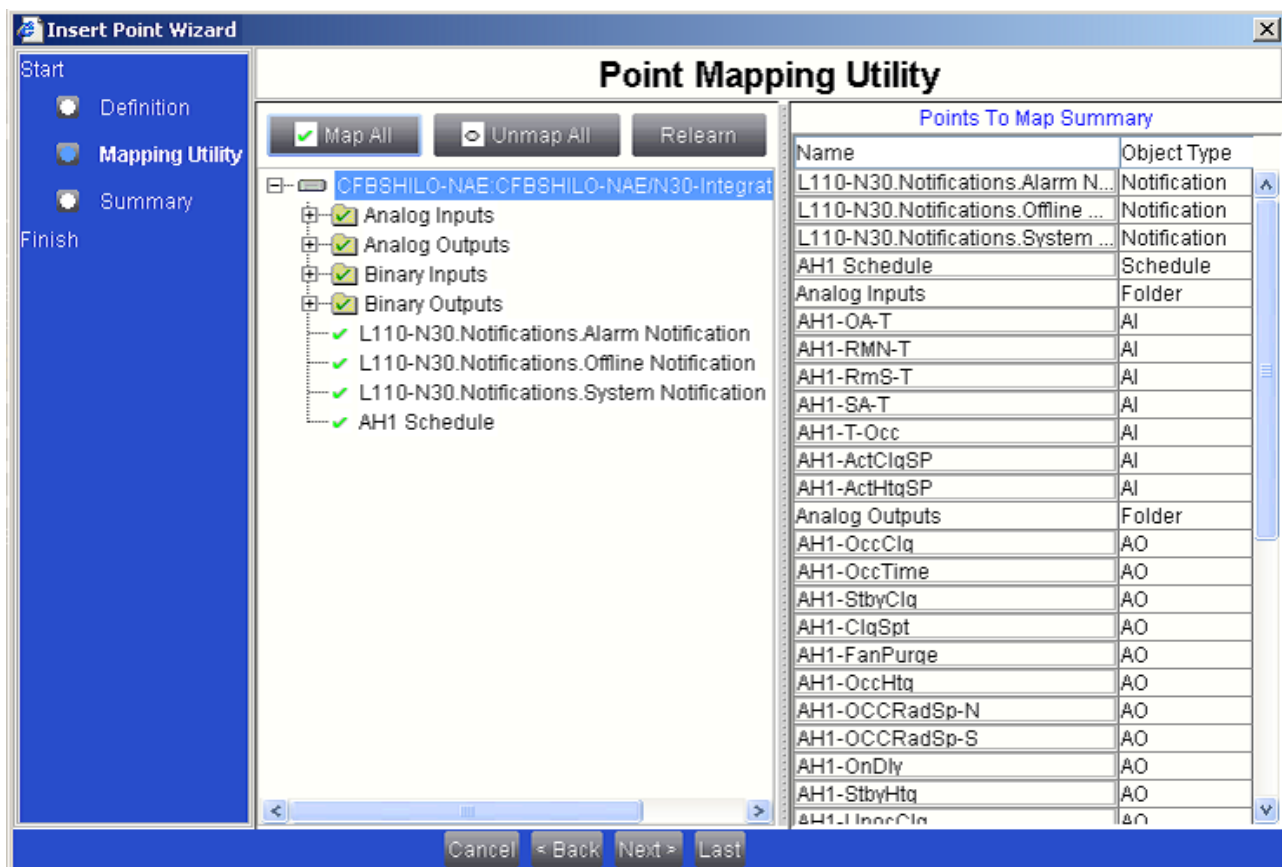

Figure 18: Point Mapping Utility
- Select points for the NAE using the Point Mapping Utility screen (Figure 18).